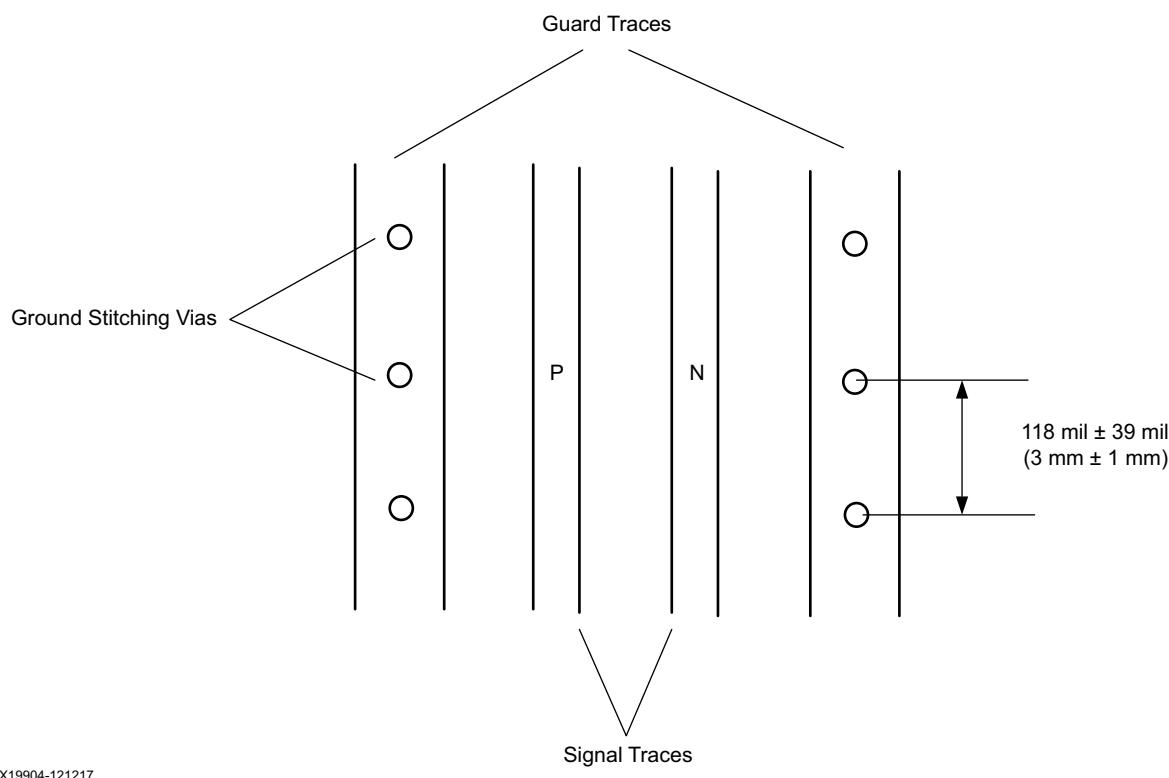
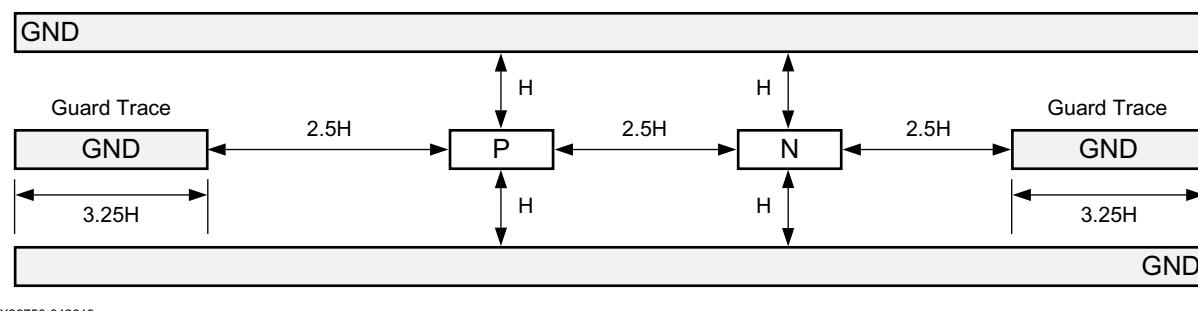

Figure 3-9: Close View of Guard Traces and Ground Stitching
Figure 3-10: Cross-Section of Guard Traces
- Add ground stitching around groups of RF signals to 158 mil (4.0 mm) pitch. See Figure 3-9, Figure 3-10 and Figure 3-11.
Figure 3-9 shows closer detail of guard traces and ground stitching vias. Ensure to continue ground stitching around the pins of the RFSoC, as shown in Sample Stackup.
Figure 3-10 shows a cross-section view of the guard traces.